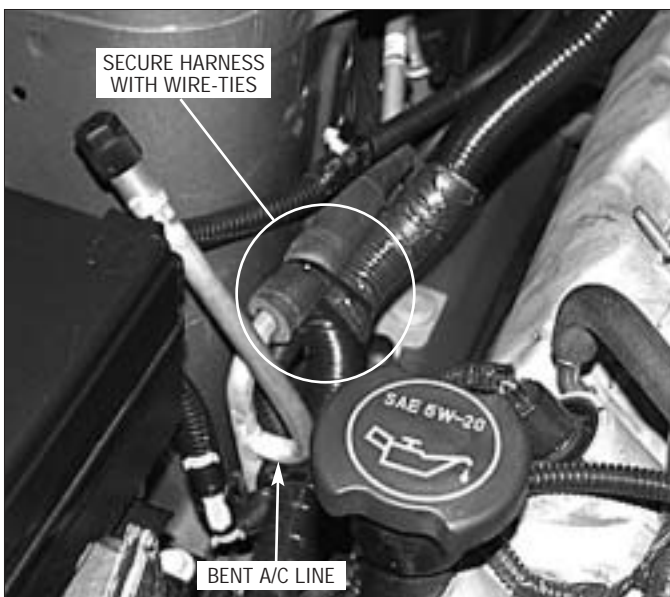

Fig. 3D-b
3. Remove the small clip retaining the small wiring harness to the shock tower. (See Fig. 3D-b.)